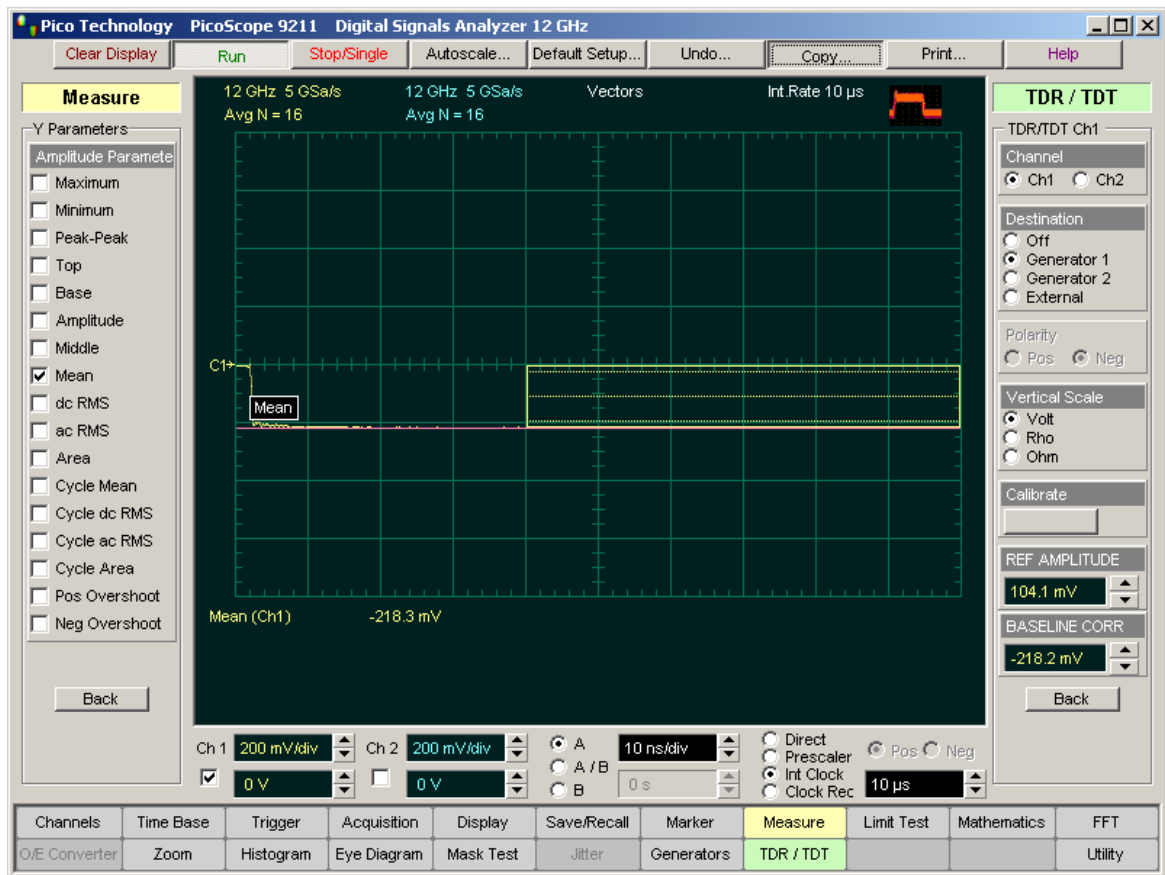

Figure 2
8. Connect the 50-ohm termination to the Reference Plane. See Figure 2. Write the mean value V_{50} . It is equal to -218.3 mV. See Figure 2.